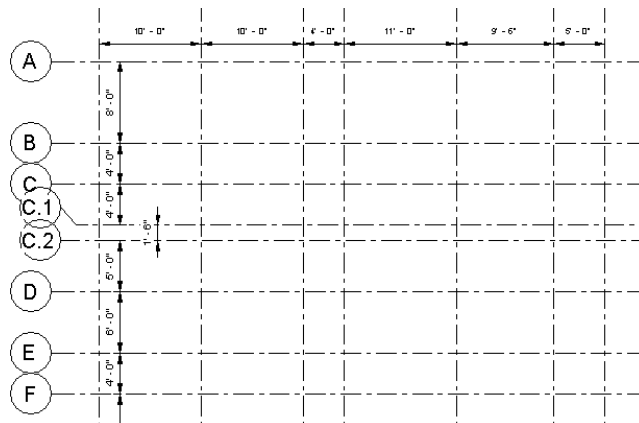
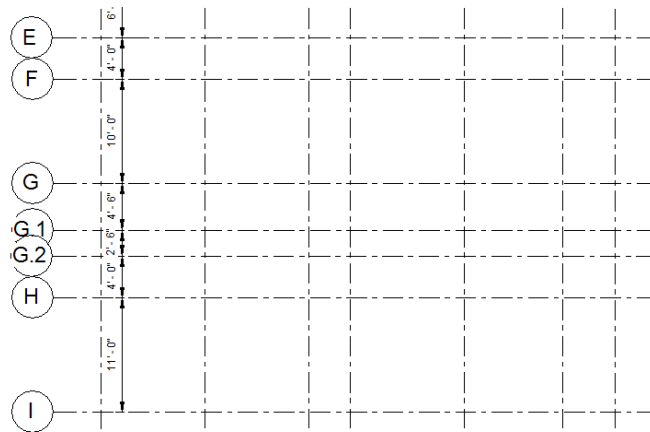

Figure 3-53 The horizontal grid lines to be created with the specified names and distances
Figure 3-54 The remaining horizontal grid lines in continuation of Figure 3-53
24. Repeat steps 20 to 23 to create the rest of horizontal grid lines and rename them, refer to Figures 3-53 and 3-54.
To create the remaining horizontal grids from grid **B** to grid **I** refer to Figures 3-53 and 3-54. Note that both these figures are part of a single grid plan view. Figure 3-54 is in continuation with Figure 3-53 and is displayed separately to show the grid dimensions clearly. Further, the horizontal grids will be renamed using the same method used for vertical grids.